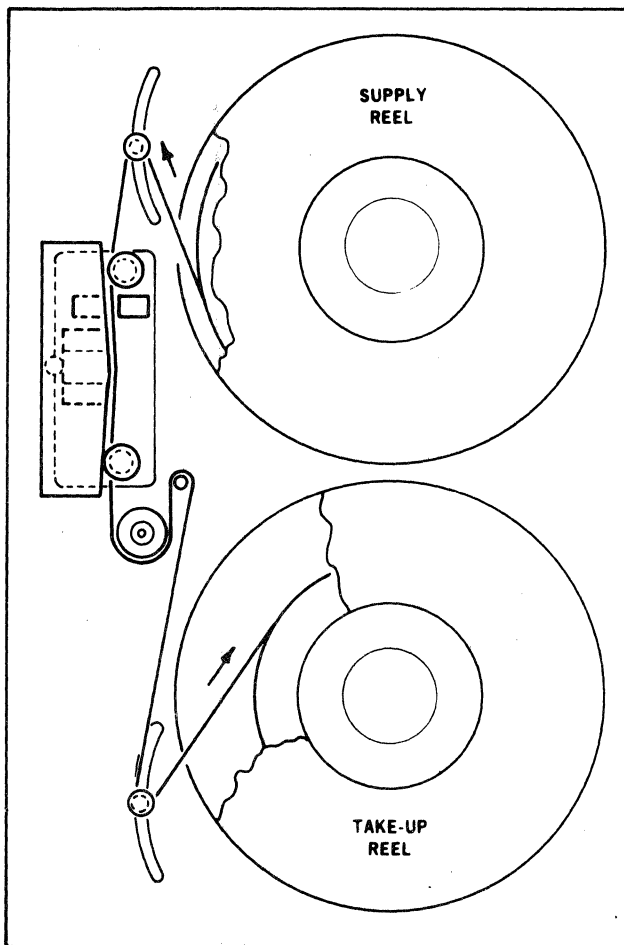

Figure 2-1. Tape Threading
- a. Place the tape file reel to be used on the upper or supply hub (Figure 2-1) with the write-enable ring side next to the transport deck. Make certain the reel is all the way against the hub flange.
- c. Thread the tape along the path as shown by the threading diagram (Figure 2-1).